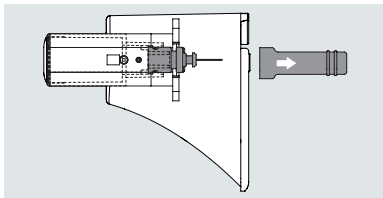

Figure 16
3. Remove the protective sleeve as shown in Figure 16.